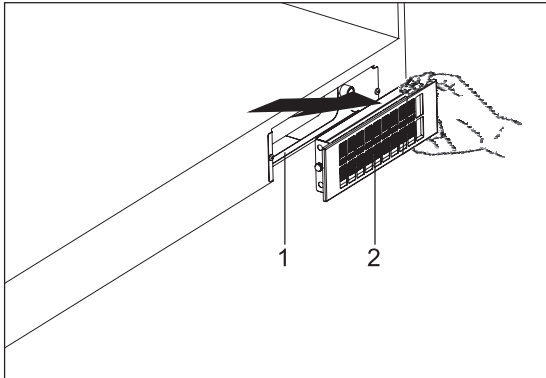

Fig. 7
1. → active carbon filter (Fig. 7/2) by pulling it towards the direction of the arrow(Fig. 7).